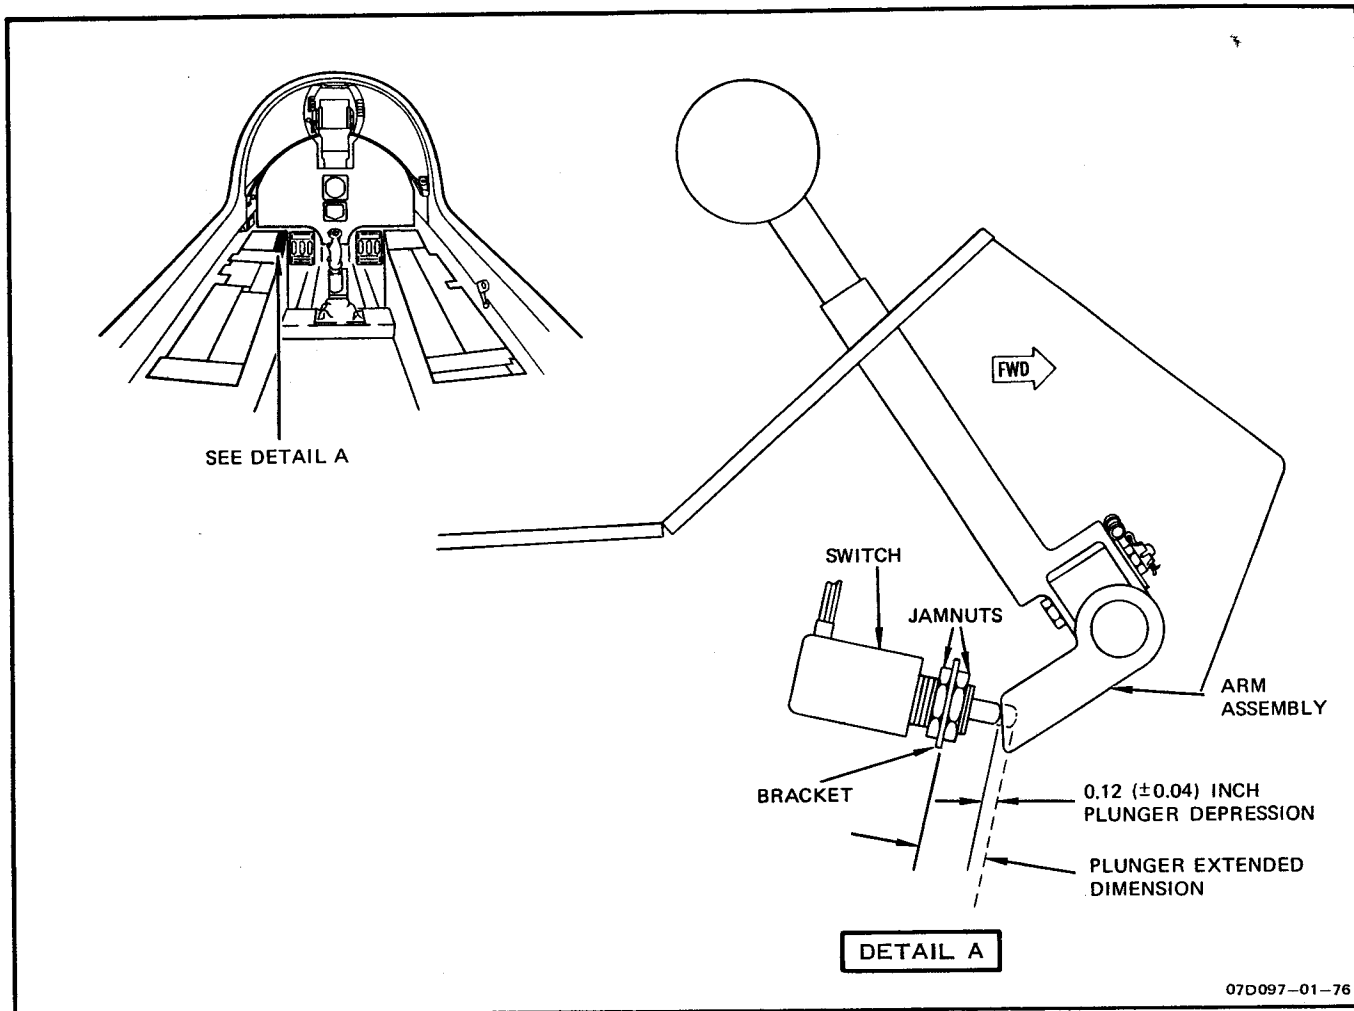

Figure 4-11. Landing Gear Handle Switch Adjustment
**4-46. LANDING GEAR HANDLE SWITCH ADJUSTMENT.** (See figure 4-11).